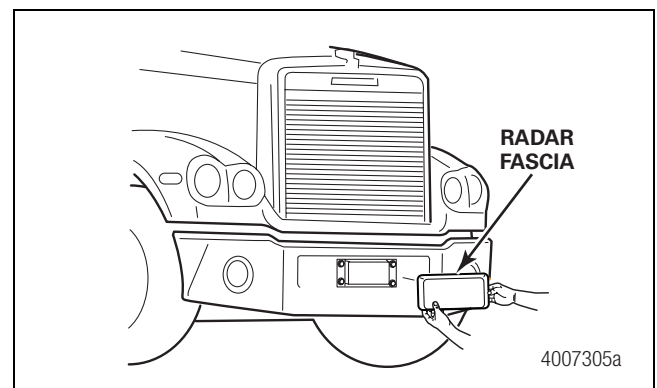

Figure 3.1
3. Remove the two fascia mounting bolts and remove the fascia from the radar sensor. Figure 3.1. Note the orientation of the fascia. The fascia must be mounted with the indented "chin" positioned facing the radar electrical connector location. If the radar harness connector is on the top of the radar, the radar fascia should be oriented so the wording "OnGuard™" is on the top and is rightside up. If the radar harness connector is on the bottom of the radar, the radar fascia should be oriented so the wording "OnGuard™" is on the bottom and is rightside up. If the fascia has a "chin" rather than the "OnGuard" wording, the "chin" should be oriented over the radar connector, either on the top or on the bottom respectively.